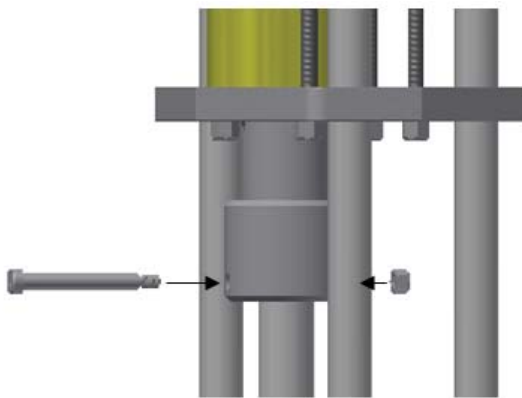

Figure 13
g. Line up 3/8" thru hole on top of saw mandrel with the 3/8" thru hole on Air Motor to Saw Mandrel Restraint piece and place 3/8"x2.75" shoulder bolt through the lined-up holes. (See Figure 13).